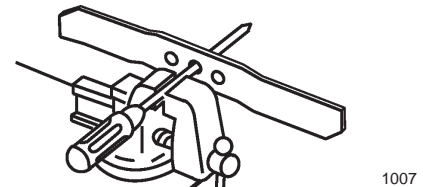

Figure 27
1. Check the balance of the blade by placing the center hole of the blade over a nail or screwdriver shank clamped horizontally in a vise (Fig. 27).